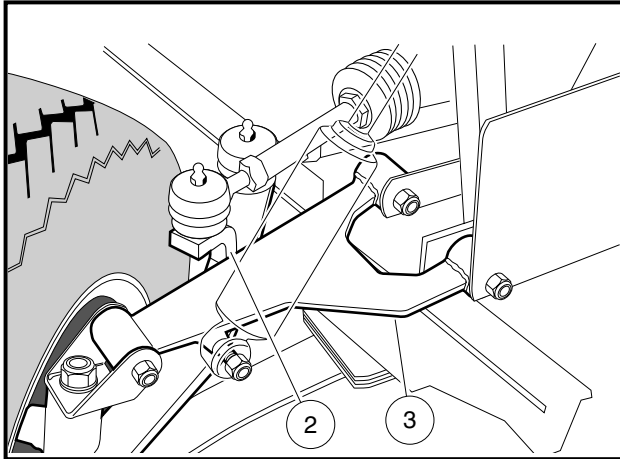

Figure 7-7 Adjust Steering Alignment
1. Turn the steering wheel all the way to the right. Note the distance between the passenger side spindle stop (2) and passenger side A-plate (3) (**Figure 7-7, Page 7-9**). The internal stop on the rack must reach its limit of travel against rack and pinion housing at exactly the same time the spindle stops against the passenger side A-plate (with vehicle wheels turned to the right). If simultaneous contact occurs, steering is in correct adjustment; proceed to step 4. If simultaneous contact does not occur, proceed to step 2.